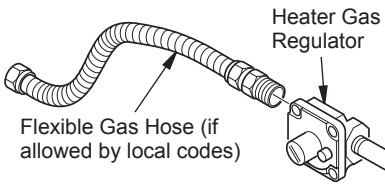

Figure 10 - Attaching Flexible Gas Hose to Heater Gas Regulator
1. Apply pipe joint sealant lightly to male threads of gas fitting (provided). Connect approved flexible gas hose to inlet side of gas control (see Figure 10).